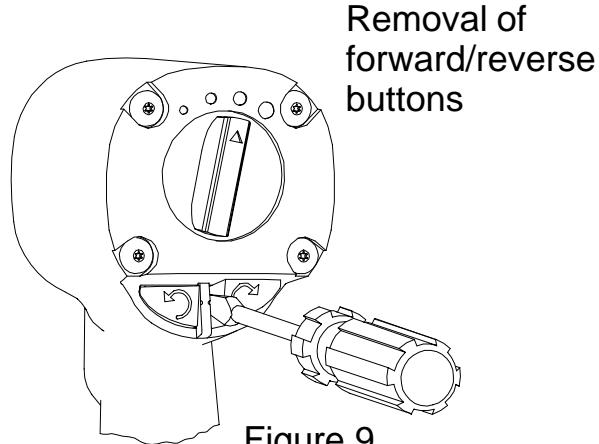

Figure 9
1. Insert the screwdriver between the partition and the fully extended Button. **Gently** pry against the Button to disengage the detent so that the Button can be removed. After the Button is removed, reach inside the Housing and rotate the Reverse Valve to extend the remaining Button. Repeat the above procedure for the remaining Button. See Figure 9.